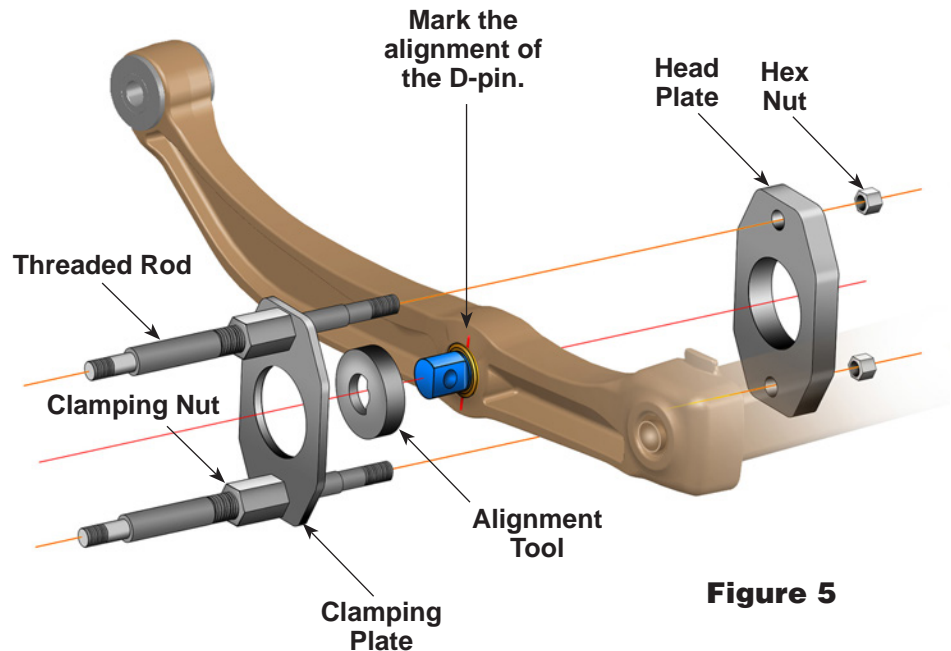

Figure 5
1. Mark the beam to show the alignment of the existing D-pin. Install the alignment tool over the D-pin, and place the clamping plate over the alignment tool. See Figure 5.